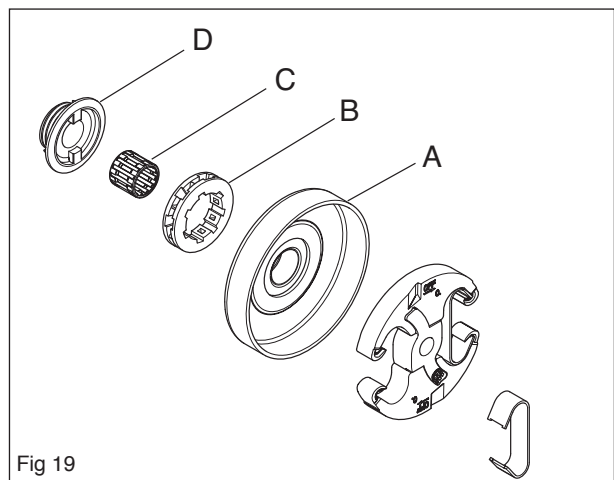

Fig 19
Dismantle the clutch drum (A), drive sprocket (B), needle bearing (C) and pump drive wheel (D). See figure 19.